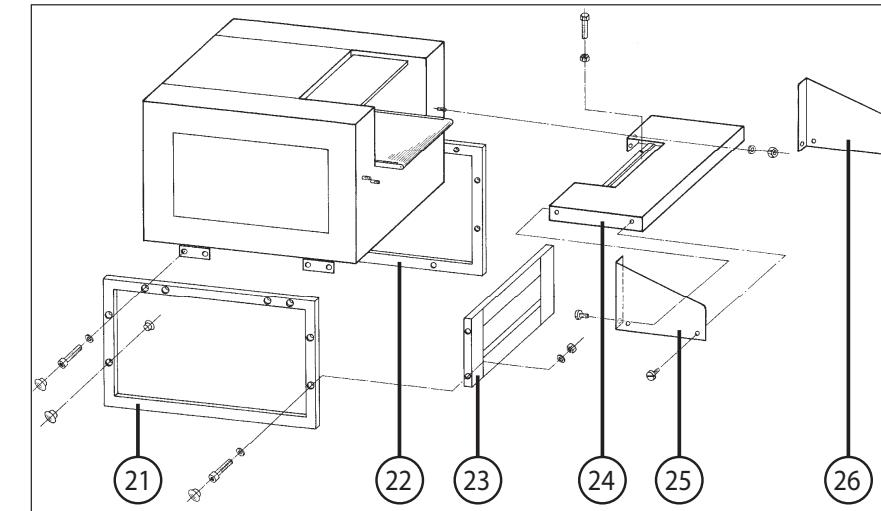

fig. 1
ASSEMBLY OF THE BASE (Fig. 1 and 2):
ASSEMBLY OF THE TABLE (24) (fig. 1):
ASSEMBLY OF THE GUARD PANELS (fig. 1):
- 21 = frame left (fig. 1 und 2)
- 22 = frame right (fig. 1)
- 23 = cross beam (fig.1 und 2)
- 24 = table (fig. 1)
- 25 = guard panel left (fig. 1 und 2)
- 26 = guard panel right (fig. 1)